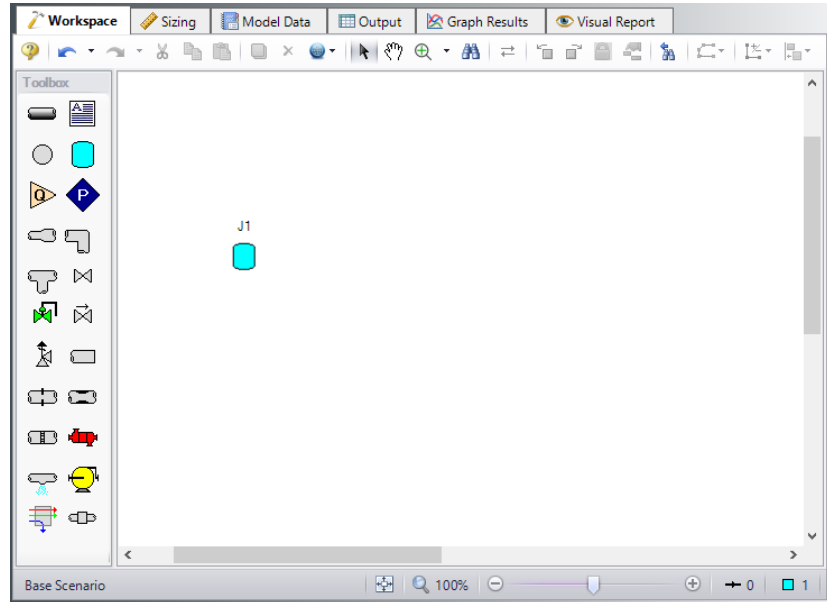

Figure 2.3a Walk through model with the first junction placed
- **To start, drag a Tank junction from the Toolbox** and drop it on the Workspace. Figure 2.3a shows the Workspace with one tank.